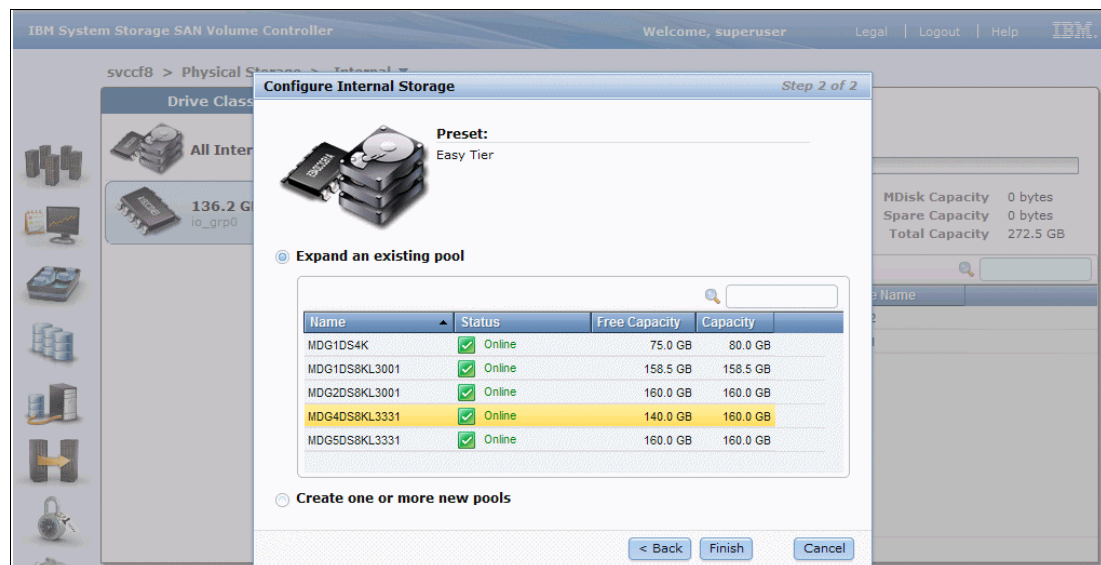

Figure 16-12 Selecting the storage pool for SSDs
17. Select the storage pool (former managed disk group) to include the SSDs, as shown in Figure 16-12. Click **Finish**.